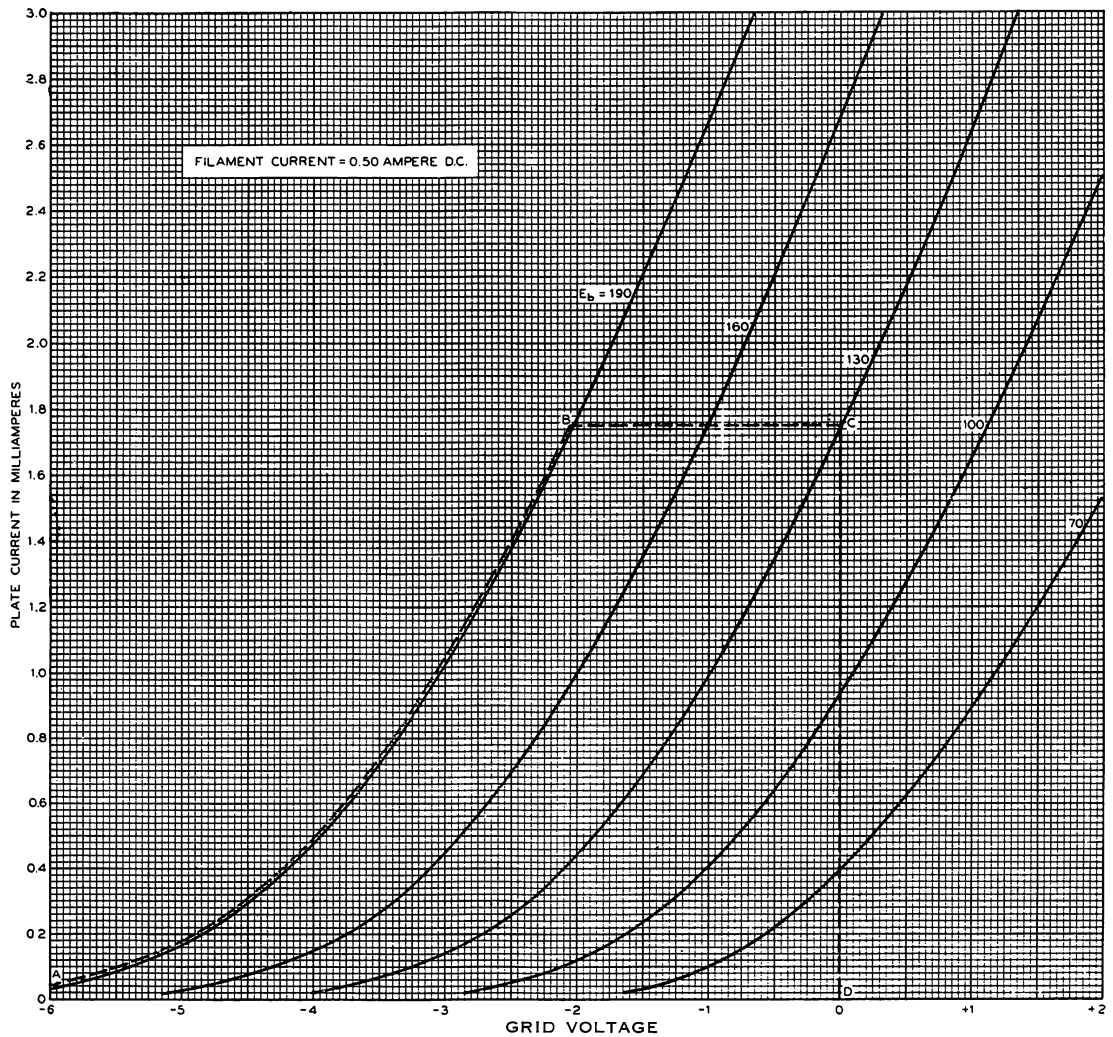
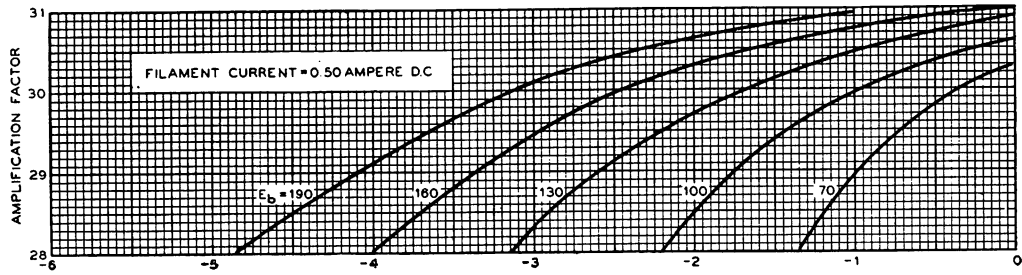

FIG. 3
FIG. 4
**Characteristics**—Plate current characteristics of a typical 102F tube are shown in Figure 3 as functions of grid voltage for several values of plate voltage. The grid and plate voltages are measured from the negative end of the filament. Corresponding amplification factor, plate resistance, and transconductance characteristics are given in Figures 4, 5 and 6, respectively. Plate current characteristics as functions of plate voltage are shown in Figure 7 for several values of grid voltage.
**Operating Conditions and Output**—Permissible operating plate and grid voltages are included within the area, ABCD, in Figure 3. Amplification factor, plate resistance, transconductance, and performance data are given in the table on page 3 for a number of typical operating conditions represented by selected points within this area. The less severe operating conditions should be selected in preference to maximum operating conditions wherever possible. The life of the tube at maximum conditions may be shorter than at less severe conditions.
**Characteristics**—Typical curves showing plate current as a function of grid voltage for several values of plate voltage are shown in Figure 3. The grid and plate voltages are measured from the negative end of the filament. Corresponding amplification factor, plate resistance and transconductance characteristics are given in Figures 4, 5 and 6 respectively. Plate current as a function of plate voltage for several values of grid voltage is shown in Figure 7.
**Operating Conditions and Output**—Permissible operating plate and grid voltages are included within the area, ABCD in Figure 3. A number of recommended and maximum operating conditions and the corresponding values of amplification factor, plate resistance, transconductance and performance data are given in the table below. Recommended conditions or others of no greater severity should be selected in preference to maximum conditions wherever possible. The life of the tube at maximum operating conditions may be shorter than at less severe conditions.